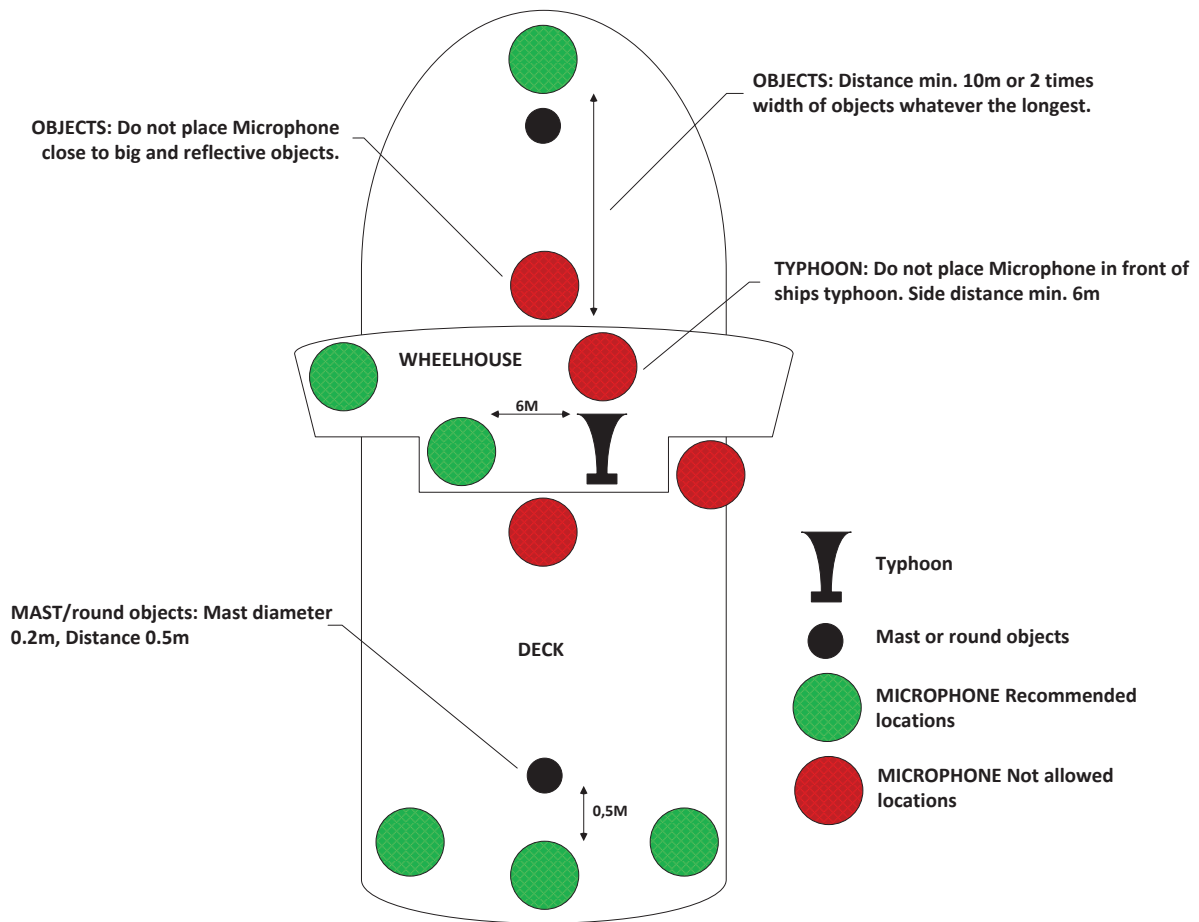

Figure 1 Microphone Mounting Guidance
- Mount the Microphone Unit according to *Figure 1 Microphone Mounting Guidance* on page 12.